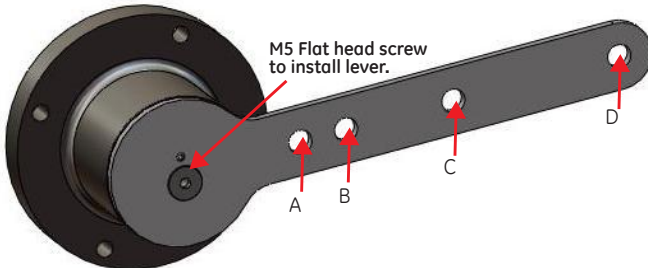

Figure 13 Magnet Holder and Standard Lever for Reciprocating Valves
This section describes the procedure for mounting the SVi1000 on Reciprocating Valves, using Masoneilan's 87/88 Multi-Spring actuators as an example. Figure 13 on page 27 shows the standard lever for all size installations. See "Integrated Magnet Assembly" on page 30 for the optional IM assembly.
2. Ensure that the lever is pinned to the magnet assembly and held securely by an M5 flat head screw to ensure that the magnet axis is vertical when the lever is in the valve closed position. Tighten the lever screw securely (Figure 13).